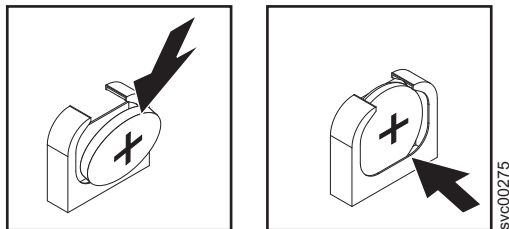

Figure 191. SAN Volume Controller 2145-DH8 CMOS battery holder
- b. Press the battery across into the socket until it clicks into place. Make sure that the battery clip holds the battery securely, as shown in Figure 191.